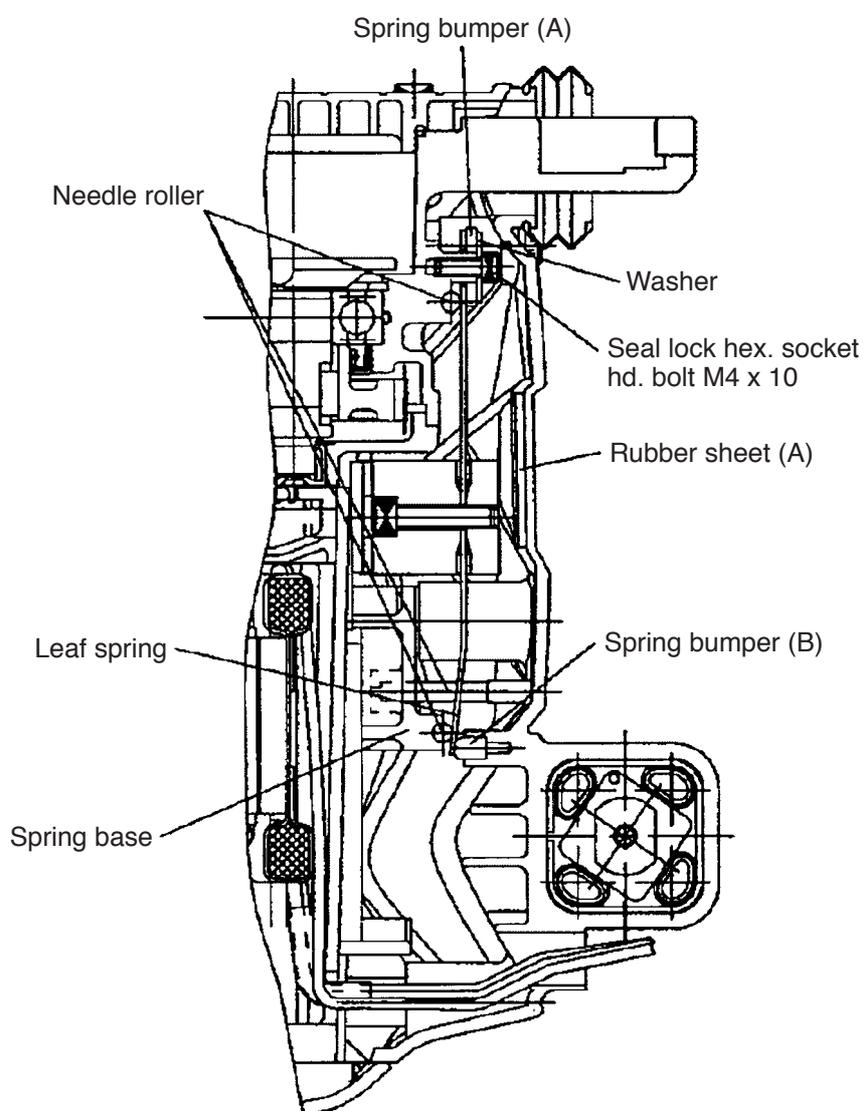

Fig. 27
Mount the Back Cover [76] to the Cylinder Crank Case [47] and the Housing Ass'y [114]. At this time, check that Spring Bumper (B) [75] and Rubber Sheet (A) [74] are adhered and the Needle Rollers [55] are mounted to the Cylinder Crank Case [47] and the Spring Base [115] (Fig. 27).